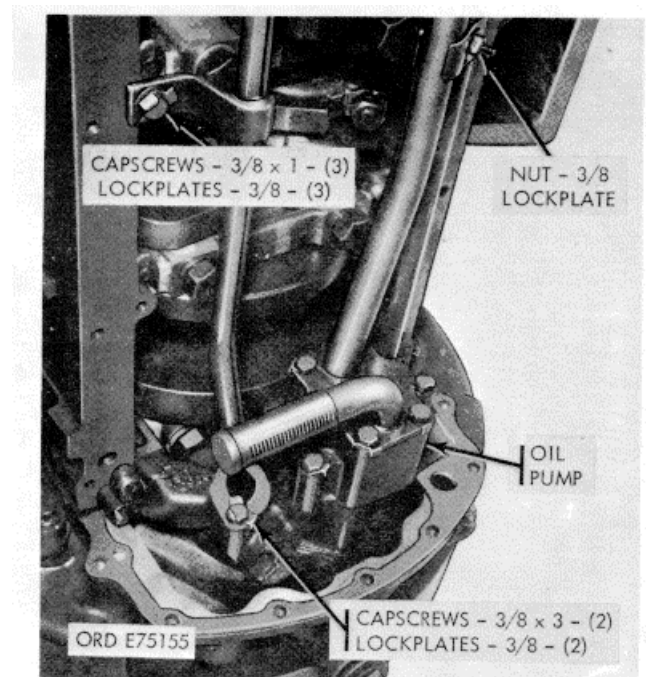
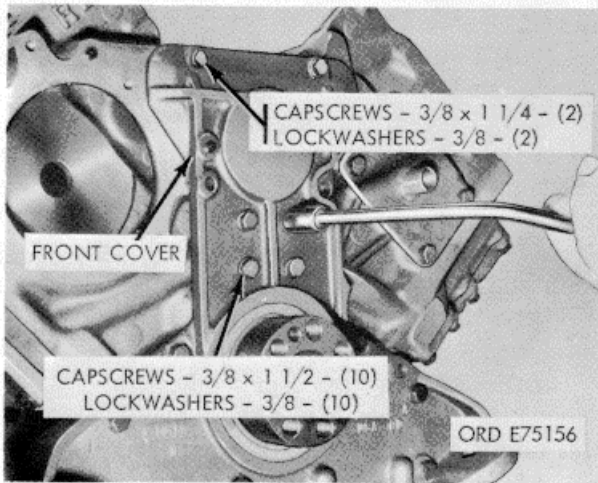
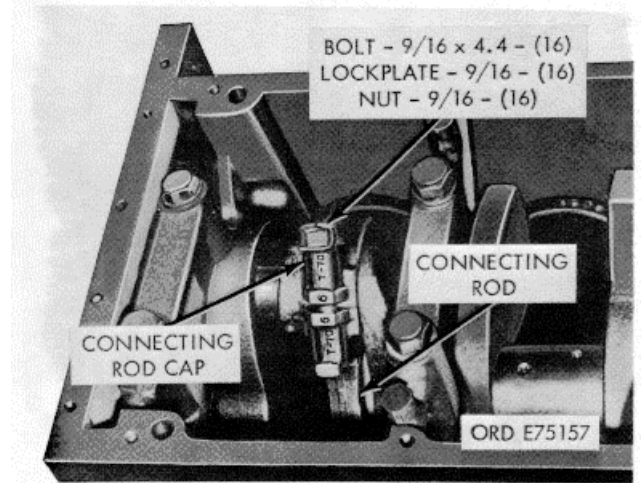

Figure 2-26. Oil pump assembly-removal/installation.
Figure 2-27. Front cover-removal/installation.
Figure 2-28. Connecting rod and piston assembly-removal/installation.
(4) Remove 12 cap screws, lockwashers, and flat washers securing oil pan to block.
(5) Remove pan and gasket.
*m. Oil Pump Assembly* (fig. 2-26).
(1) Remove cap screw, nut, lockplate, and clamps securing oil suction tube to block.
(2) Remove cap screw and lockplate securing oil by-pass tube to block.
(3) Remove four cap screws and lockplates securing oil pump to block.
(4) Remove pump and tubes from block.
*n. Front Cover* (fig. 2-27).
(1) Remove 12 cap screws and lockwashers securing cover to engine block.
(2) Remove cover and gasket. Pull straight out to avoid damaging the dowels.
*o. Connecting Rod and Piston Assembly* (fig. 2-28).